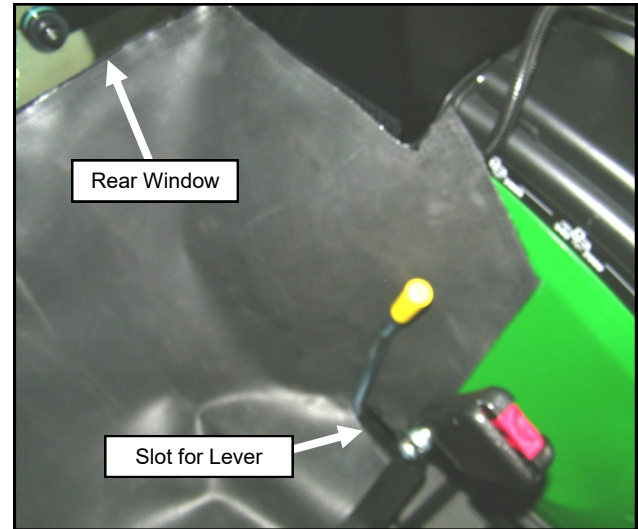

Fig. 22.2a (Install Under Seat Filler)
22.2 Tip the seat forward and set the filler in place. See Figures 22.2a and 22.2b. Adjust the Velcro so that the back will be on the glass above the rubber seal, the sides are on sheet metal and the corners of the filler roughly line up with the corners of the rear legs, and the front edge is far enough back to not interfere with the function of the levers and knobs.